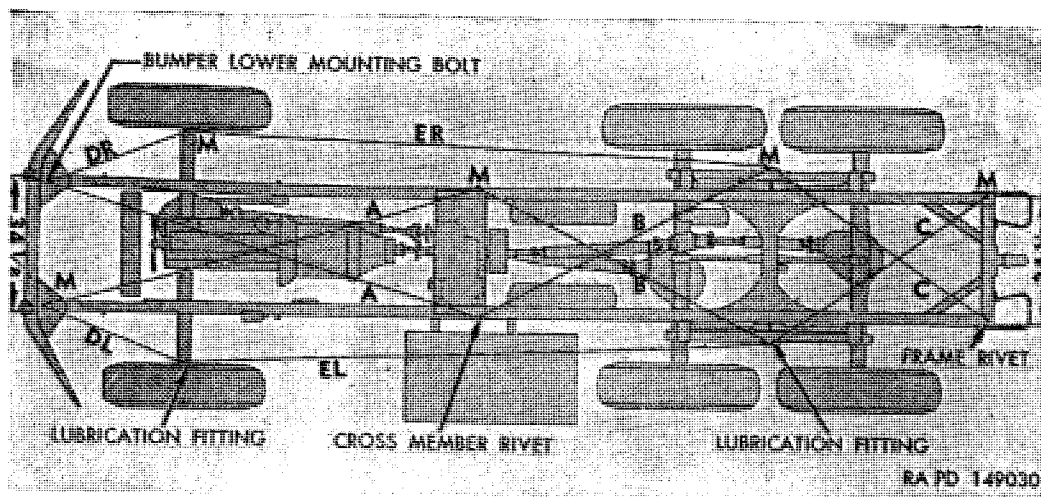

Figure 301. Method of checking frame alignment (M135 shown).
(fig. 301)
b. Checking Frame Alinement. The most convenient method to check frame alinement, particularly on vehicle equipped with a body, is by marking on the floor all points from which measurements are to be taken. This can be accomplished by tacking or cementing pieces of paper to the floor under each point of measurement. Start at front of vehicle (M, fig. 301) and drop a plumb bob from each point indicated in figure 301. Satisfactory checking is dependent upon accuracy of marks with relation to frame. When each point shown has been marked carefully and the vehicle moved away from the layout on the floor, proceed as directed in (1) through (5) below.
- (1) Check frame width at front and rear, using corresponding marks on floor. If widths correspond to dimensions given, draw centerline full length of vehicle halfway between marks indicating front and rear width. If frame widths are not correct, lay out centerline as directed in (4) below.
- (2) With centerline properly laid out, measure distance from opposite points marked over entire length of chassis. If frame is in proper alinement, measurements should not vary more than one-eighth inch at any point.